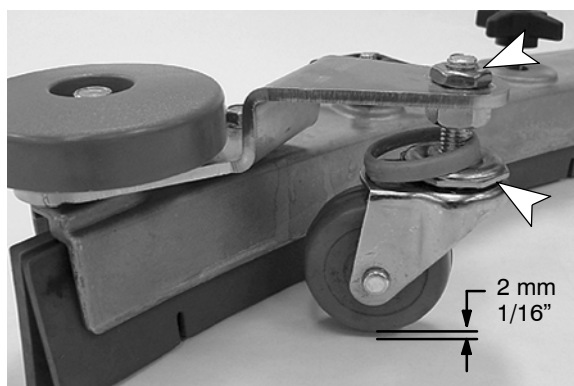

FIG. 62
1. To check the squeegee assembly for proper adjustment, remove the squeegee assembly from the machine and place it on a level surface. Measure the distance between the caster and the surface. It should measure approximately 2 mm (1/16") (Figure 62).
2. To adjust the caster height, loosen the top nut and remove the plastic bearing cover to access the adjustment nut. Turn the adjustment nut until properly adjusted (Figure 62). After adjusting, tighten the top nut and replace the plastic bearing cover. Repeat step for the other caster.